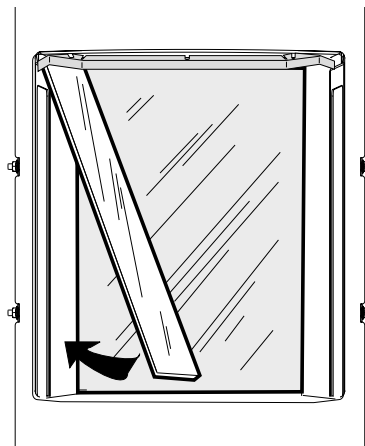

Figure 7.11. Install Side Glass Panels.
4. Orient the side panels, smooth side out, and sliding each behind the retainer wings. See Fig. 7.11.